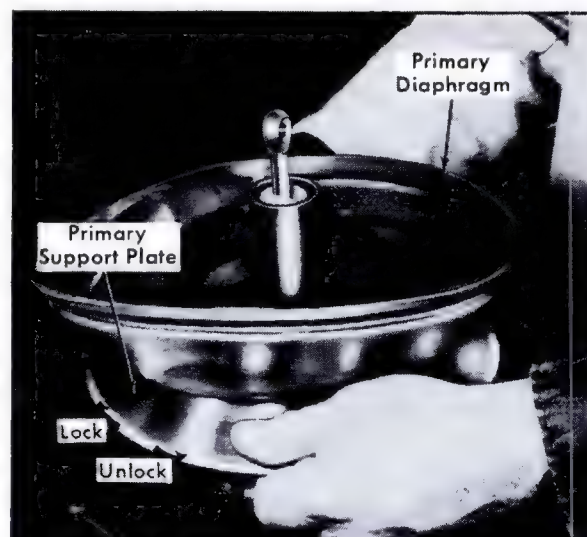

Fig. 5-42 Removing Primary Diaphragm
18. Fold back primary diaphragm from the support plate. Grip the edge of the support plate and rotate in a counterclockwise direction to unlock the primary support plate from the primary power piston, Fig. 5-42.
23. Grip the edges of the primary support plate, press down, and rotate clockwise until the tabs on the primary power piston contact the stops on the support plate, Fig. 5-42.